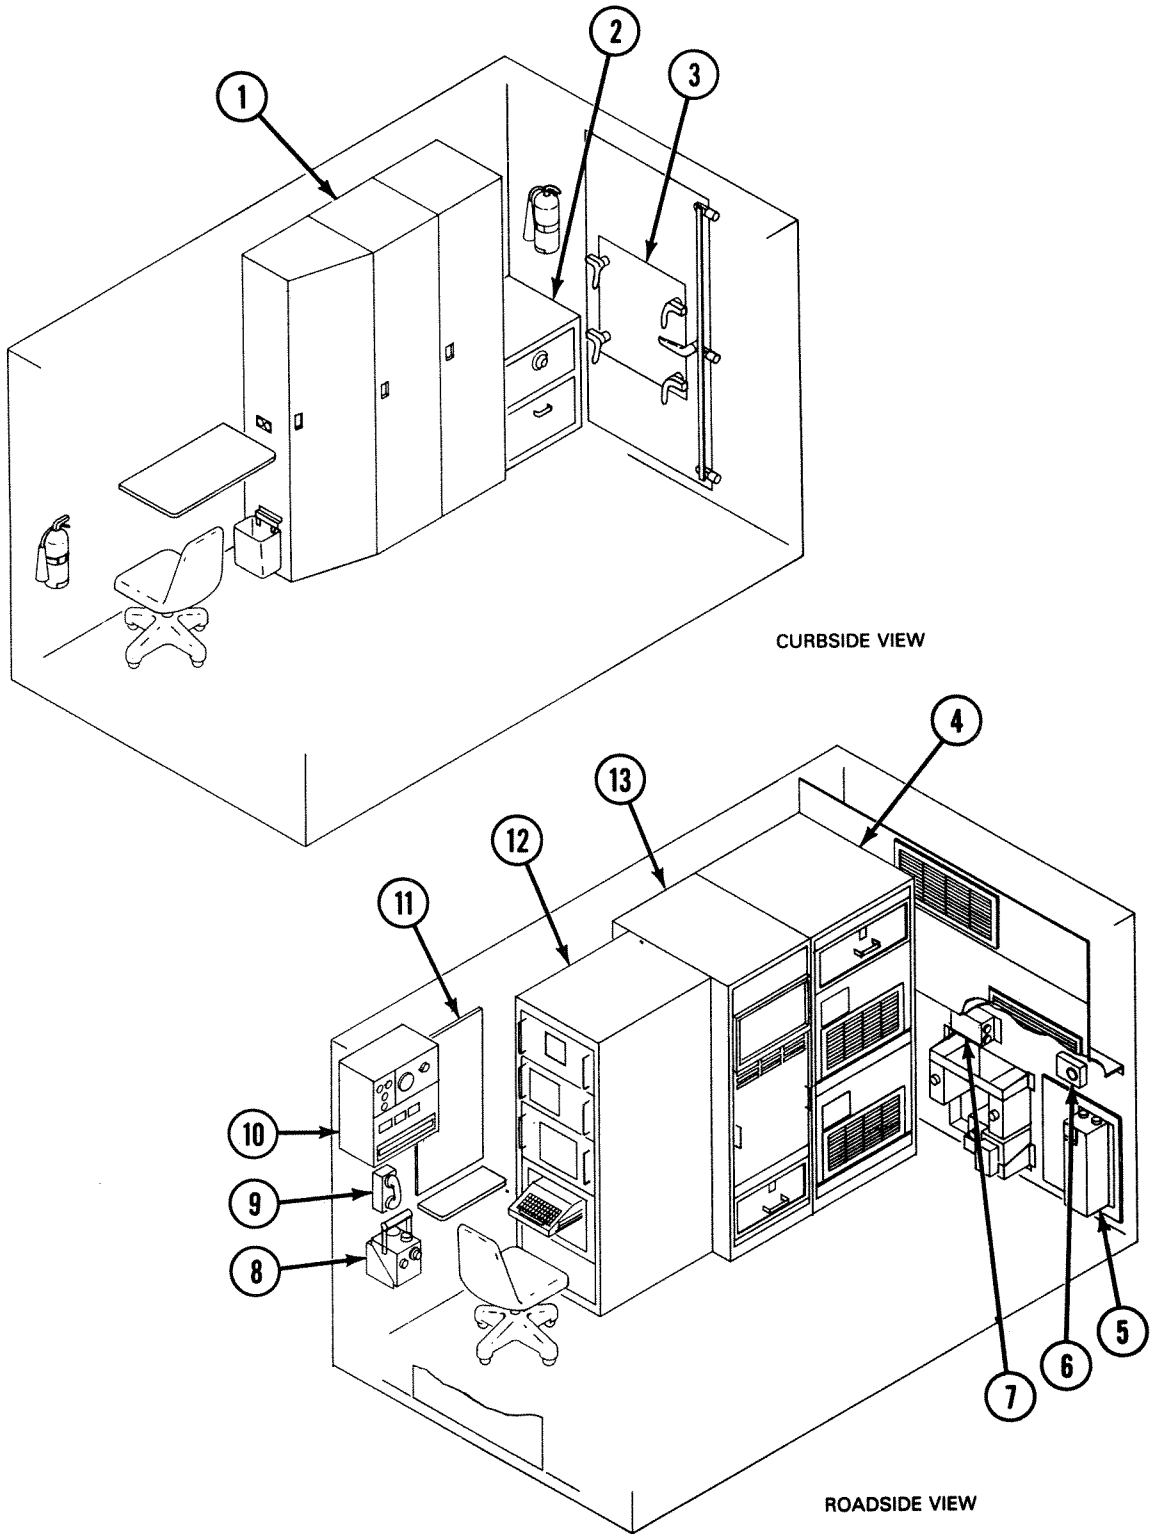

Figure 2-42. RSGF Major Interior Features
b. Interior Features. Figure 2-42 shows RSGF major interior features.